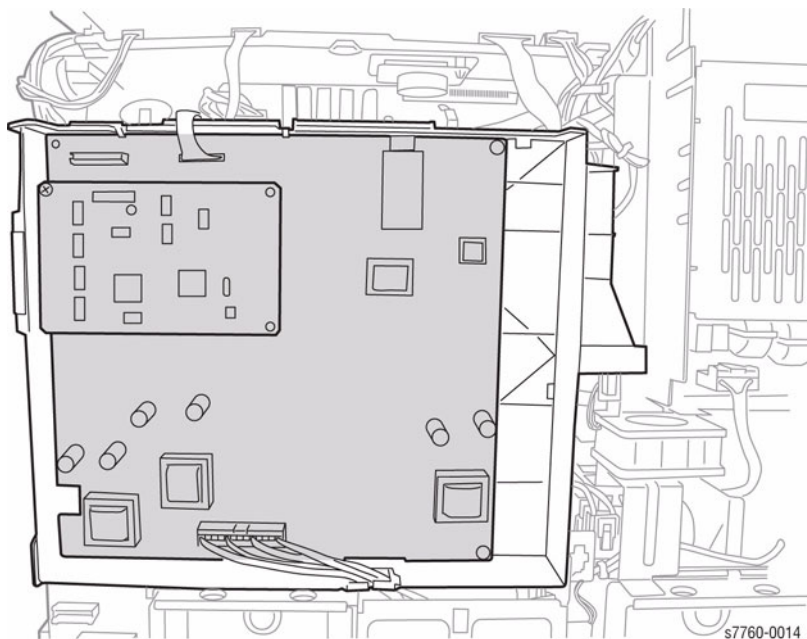

Figure 1 DEV/BTR2/DTS T10 HVPS (facing the rear of the Printer)
- DEV/BTR2/DTS T10 HVPS is power supply facing toward the front of the Printer (Figure 1).